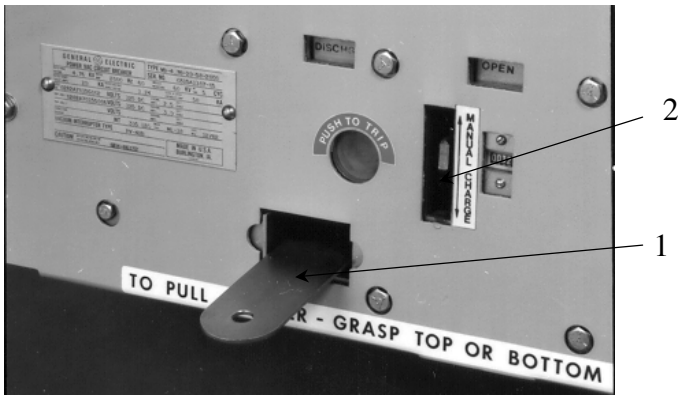

Figure 5 Gag plate
Insert the closing spring gag plate (item 1, Figure 5) by opening the closing spring gag hole cover and inserting the tip of the gag plate between the end of the spring and the spring guide and engaging the détentes on the gag plate into the slots in the closing spring guide. Note that when the closing spring guide is charged for gagging, an interference angle is exposed on the left side of the breaker (item 3, Figure 19). With the closing spring in the gagged position, this angle will provide interference preventing use of the lift truck and racking of the breaker element. No attempt should be made to alter, modify or otherwise make inoperative this safety feature. With the gag plate in position, depress the manual close button. This action will partially discharge the closing